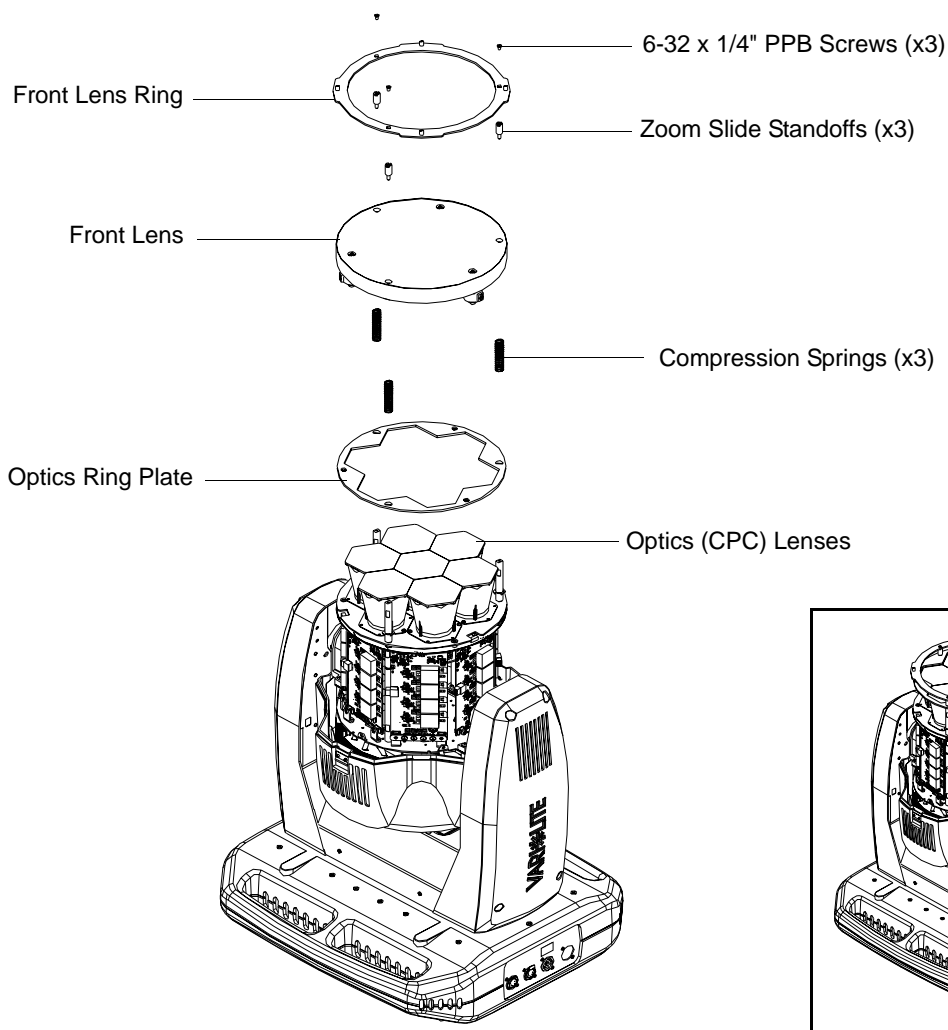

Figure 2-3: Front Lens Removal
Step 6. At head assembly, as shown in Figure 2-3, remove front lens assembly as follows: